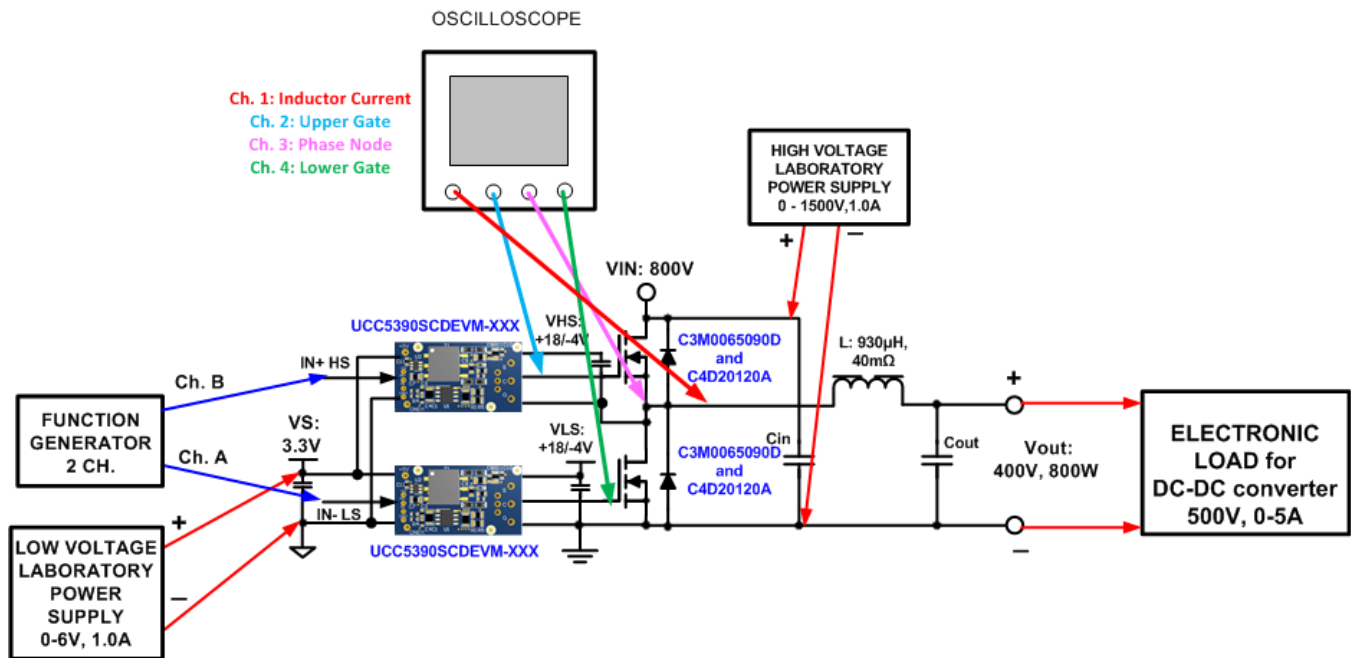

Figure 5. Test Setup for UCC5390SCDEVM-010 System Level Evaluation
The supply voltage and input signals for driver U1 and bias supply U2 are applied through header J1. Capacitors C3, C7, and C8 are located as close as possible to the VCC1 and GND1 terminals of U1 and U2, to minimize EMI while operating as part of high dv/dt and di/dt power system. Resistors R2 and R3 and capacitors C1 and C2 provide additional filtering to protect input signals. These filters are optional and may not be used in the systems where noise is limited. The secondary side noise decoupling is provided by capacitors C2, C6, C9, C10, and C11. Split outputs of the driver U1 through gate resistors R1 and R4 are connected to FETs Q1 and Q2. These FETs are not populated on the board and their through hole footprints are used to solder the board for evaluation on a system level, as it is shown in Figure 5. On this board, the gate resistors have been selected at 1 Ω. However, as was described in Section 4.1, gate resistor values determine switching rise and fall time with the power losses inside the driver IC, therefore their values can be changed for specific requirements. Capacitor C5 can be used to estimate drive current capability by measuring rise and fall time using the board separately. It is not populated on boards intended to be used in a power system.
Figure 5 shows an example of the EVM evaluation as part of a system arranged as a buck converter.
1. Before beginning the power up test procedure, verify the connections in Figure 5 and the function generator and oscilloscope settings.